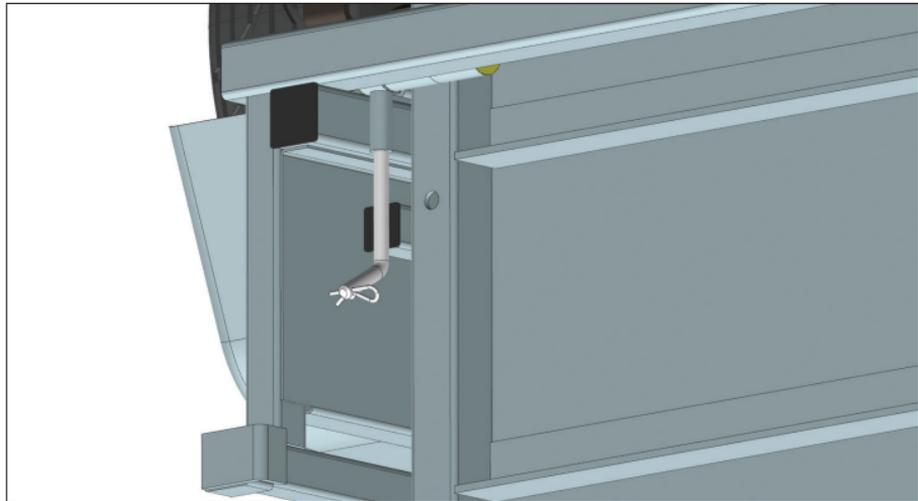
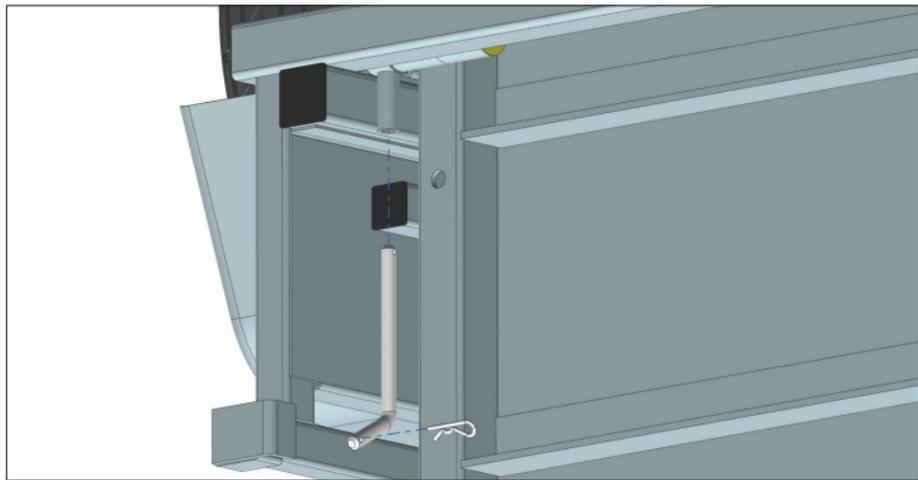

Figure 7: Storage location for hitch pins when in the closed position (continued)
Figure 6: Storage location for hitch pins when in the closed position
- 1.4. Insert the tipping pin. Lock the pin and ensure it is safely locked and can not come out by itself. Close the anti-vibration latch. Fig. 7
To close the front section follow the instructions below. If necessary, consult Figures 7 to 12.
2.2. Put the hitch pins in their corresponding storage location. Fig. 6 and Fig. 7